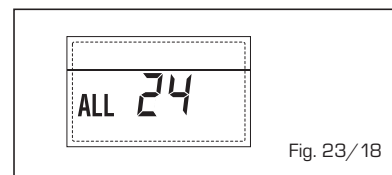

Fig. 23/18
– **ANOMALÍA Sonda ACUMULADOR SOLAR (S2) “ALL 25” (fig. 23/19)**